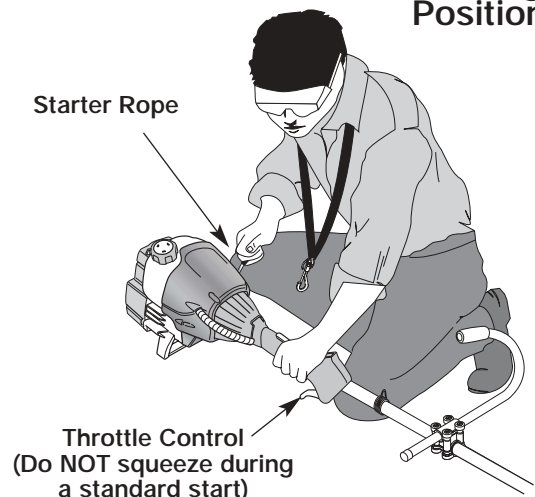

Fig. 18
WARNING: Avoid accidental starting. Make sure you are in the starting position when pulling the starter rope (Fig. 18). To avoid serious injury, the operator and unit must be in a stable position while starting. Make sure that any Add-On item is installed correctly and secure before starting the unit.
4. Crouch in the starting position and **do not squeeze the throttle control** (Fig. 18). Pull the starter rope up to 10 times briskly, until the engine starts.